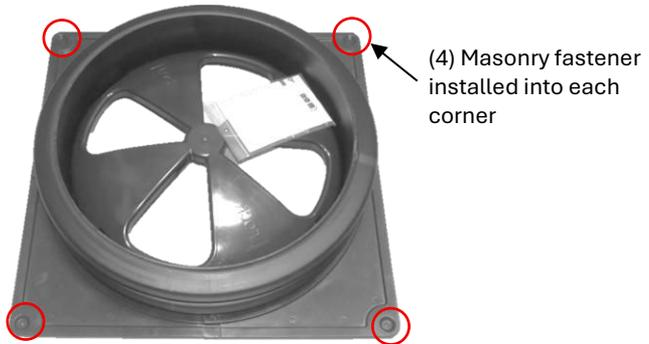

Figure 13: Masonry Fastener Location
- 13.) Drill (4) 5/32" diameter holes through the four corners of the base flange (Fig. 13) at least 2" deep into the tank. If the tank is made of concrete, use a carbide tip masonry bit.
- 14.) Fasten the base flange to the tank using four (4) provided 3/16" X 1 3/4" blue masonry screws (Fig 13). Drive screw until screw head makes contact with base flange. **DO NOT OVER TIGHTEN.**